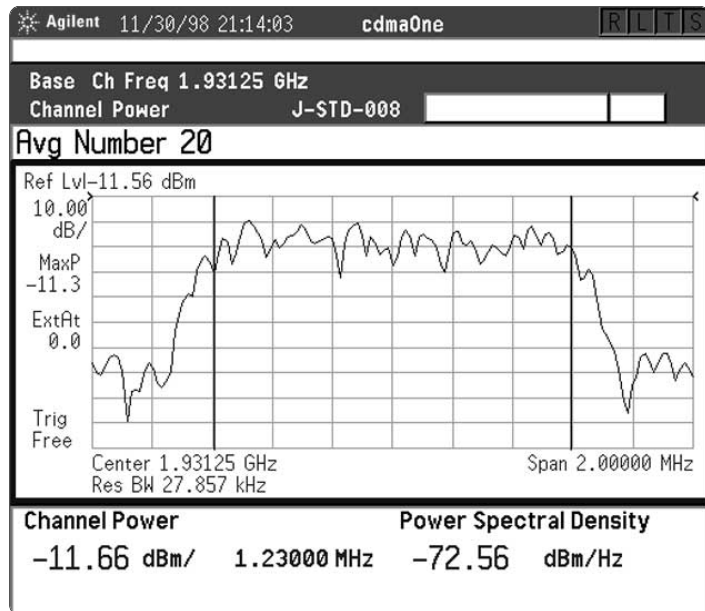

Figure 18. No averaging
1. Turn off the averaging (Figure 18)	[Meas Setup] {Avg Number} {Avg Number: Off}